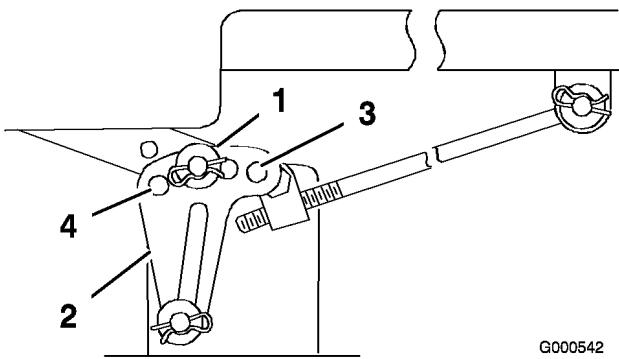

Figure 43
6. Remove the hairpin cotter and washer from the leveling bracket (Figure 43).
7. To level the blade(s), reposition the leveling bracket(s) in a different hole and install the washer and hairpin cotter. (Figure 43 and Figure 43). A front hole lowers the blade height and a rear hole raises its height. Adjust both sides as required.